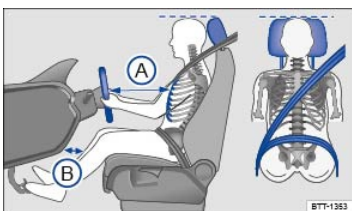

Fig. 19 Proper safety belt positioning and head restraint adjustment. The driver should never sit closer than 10 inches (25 cm) from the steering wheel.
- Adjust head restraints so that the upper edge of the head restraint is at least at eye level or higher. Position the back of your head as close as possible to the head restraint ⇒ *Fig. 19* (dotted line).